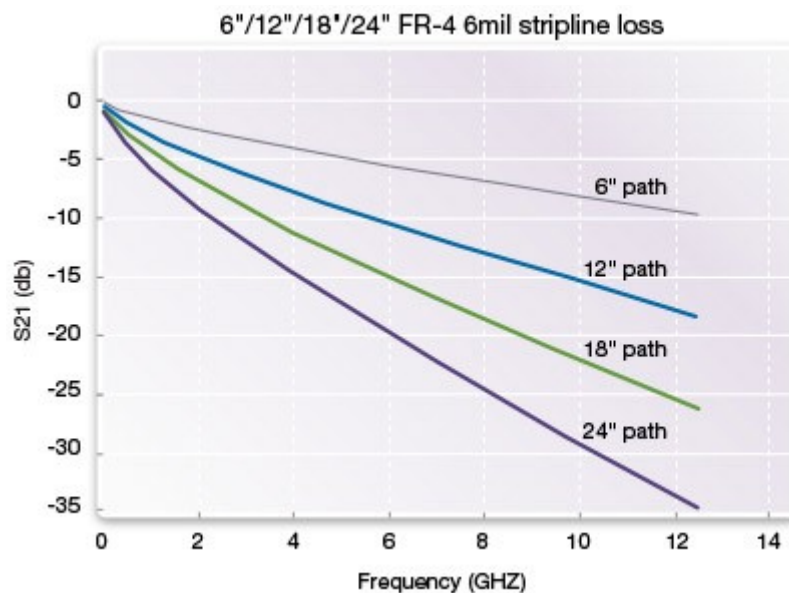

Figure 3: PCB trace response: copper loss vs. signal frequency
Copper loss increases with signal frequency, as shown in Figure 3. Higher data rates increase power loss that translates into decrease in transmission distances. Even moderate printed circuit board (PCB) trace length on the same PCB material will have increased insertion loss at higher frequencies and create signal integrity (SI) problems. These SI issues include amplitude and phase distortion and inter-symbol interference (ISI), which close the eye of a signal.